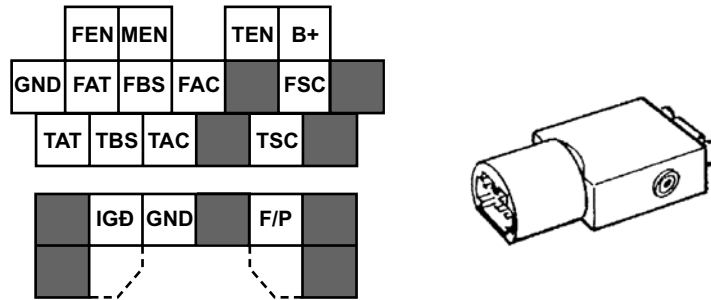

Figure 12-29 17-pin underhood connector and MAZDA-1 adapter
- Connect the MAZDA-1 adapter to the 17-pin connector (Figure 12-29). For reading codes manually, ground the TBS pin.